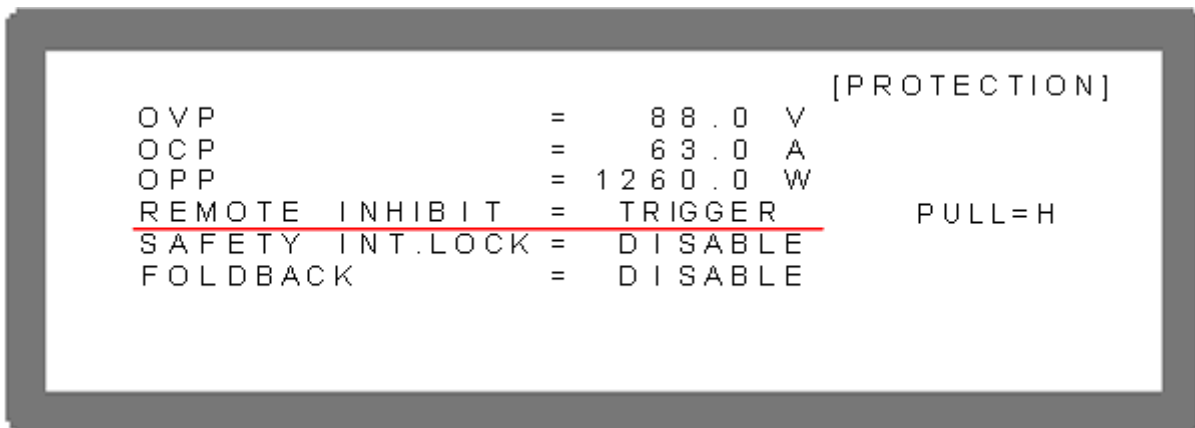

Figure 3-79
1. Use “” & “” keys to move the cursor to the column to be set as Figure 3-79 shows.